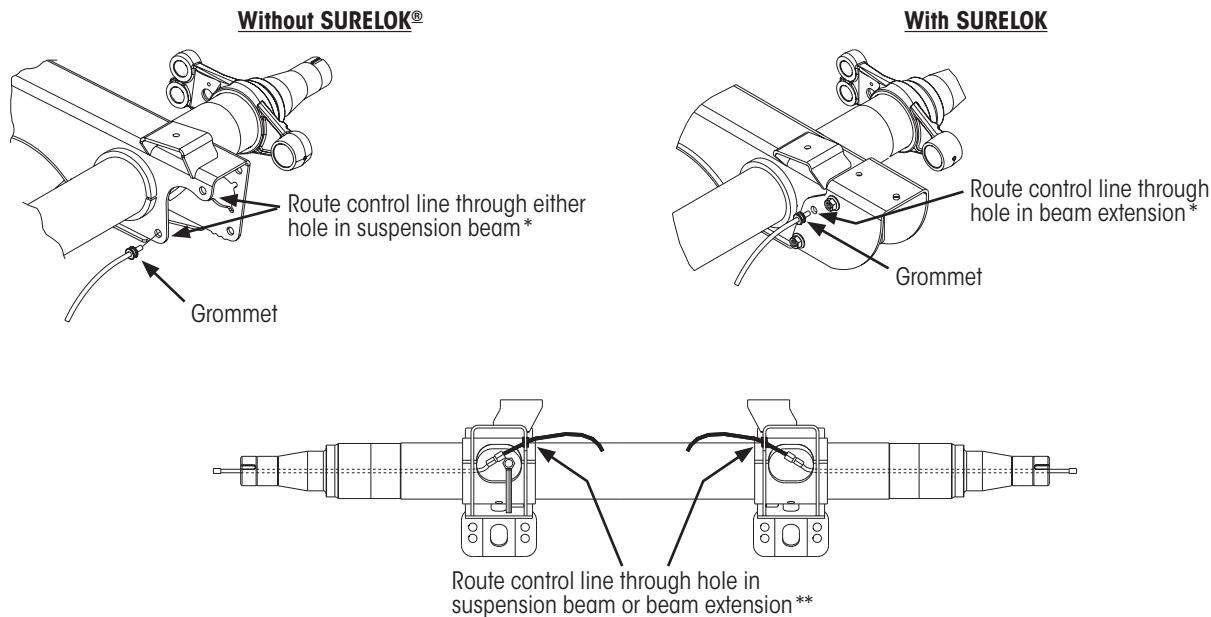
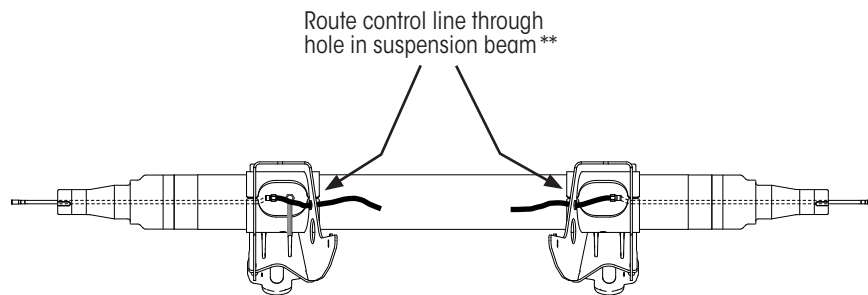

Figure 12: Suggested control line installation details for Top Mount, Wide Bushing, Standard Duty Models **AAT, HKAT**
Figure 16: Suggested control line installation details for Low Ride, Narrow Bushing, Standard Duty Models **AANL, HKANL**
3. Clock fitting, in tightening direction only, for applicable suspension. See Figure 12 to Figure 16.
For systems with one, two or more additional axles, observe the installation requirements as shown in the following diagrams (Figure 12 to Figure 16). Extend the main $\frac{3}{8}$ inch tubing as necessary.